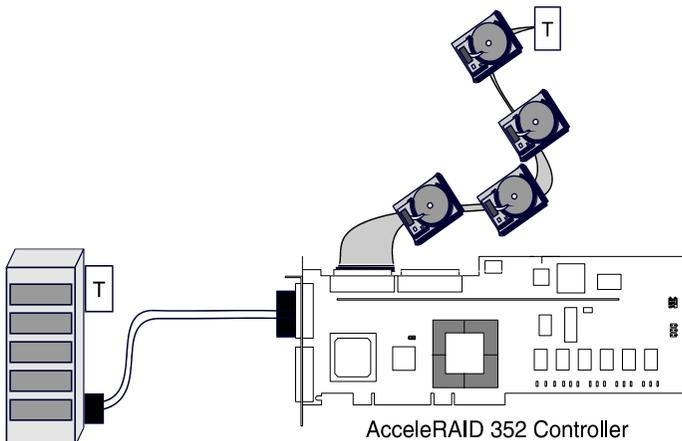

Figure 2-9. Connecting Disk Drives to the AcceleRAID 352
5. Connect the SCSI cables from the internal disk drives to the SCSI connector(s) on the AcceleRAID 352 controller, as shown in Figure 2-9. (The controller is already connected to the system board.)